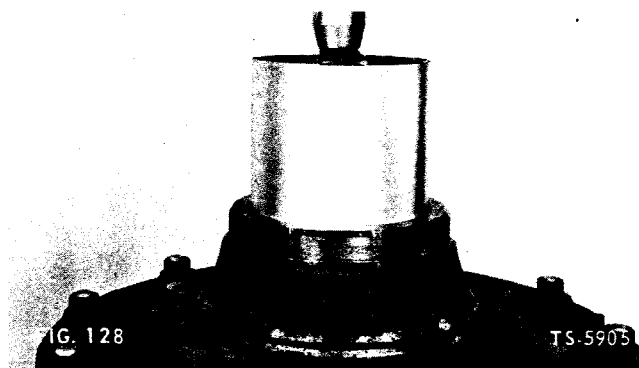
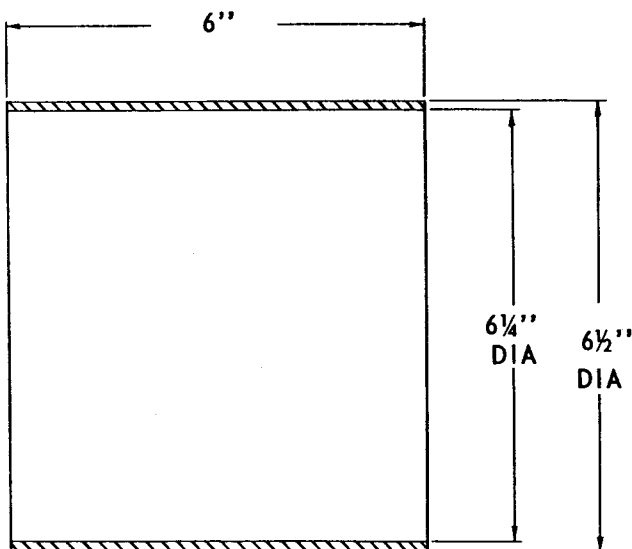

FIG. 128
FIG. 129
1. Check bearing bores in wheel hub to be sure all nicks and burrs have been removed from both bores and bearing seats. Install bearing cups in hub with wide diameter of taper toward outside of hub. If available, use bearing driver to press cups into place (Fig. 128). Bearing driver dimensions are given in Fig. 129. If bearing driver is not available, use soft drift and mallet to drive cups into place. Make sure cups are fully seated.